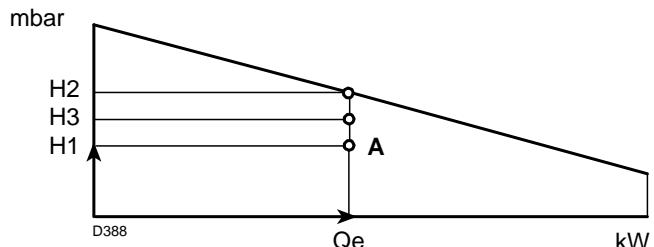

Fig. 3
$H1$ = pressure in the combustion chamber point A)(Fig. 3)
- If H3 is greater than H1, as in Fig. 3, the burner can supply the required output.